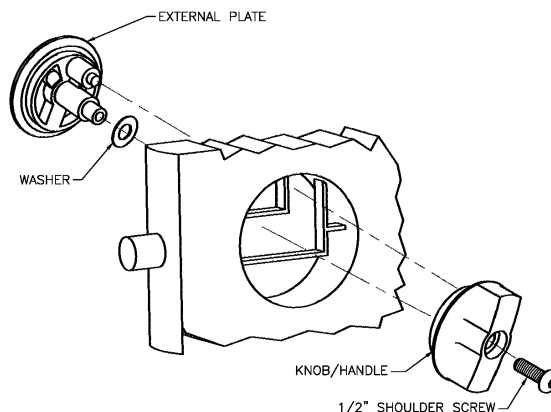

Figure 9B
- f. Mount external plate and knob. Remove clear plastic retainer holding spring washer in place on the post of the external plate. Insert the external plate into door as shown in Figure 9B, with the shorter post inserted into the upper pocket of the internal latch mechanism. Mount the knob/handle on the inside of the door and engage it with both the center post and the shorter, off-center post of the external plate. Insert  $\frac{1}{2}$ " shoulder screw with blue tip through the knob/handle and tighten until snug. Check for proper operation of knob and latch pin before final tightening.
- g. Locate strike/keeper on the latch-side pilaster so the latch pin engages with it when the door is closed. Drill ( $\frac{1}{4}$ " bit) mounting holes and secure strike/keeper to pilaster using thru bolt (1), with black rubber bumper facing out for outswing doors and in for inswing doors.